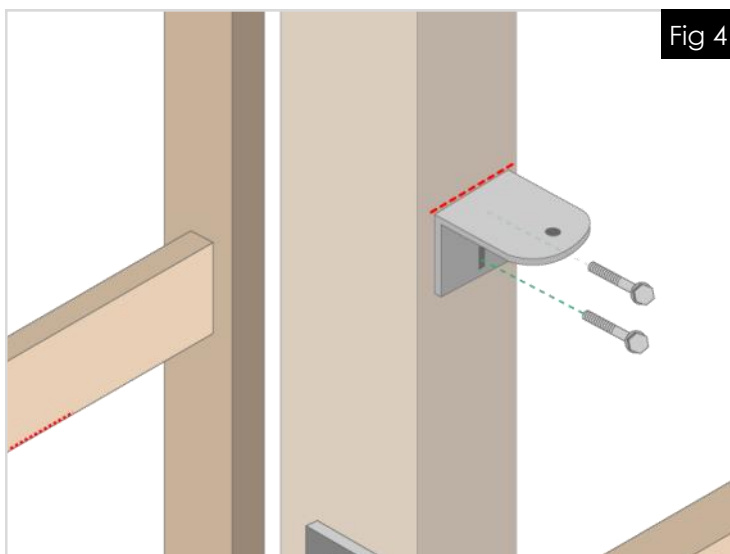

Fig 4
6) Place the lower "L" shaped bracket so the top of the bracket is aligned with the mark on the post. Mark then drill and attach the bracket using 3/8" carriage bolts. [See Fig. 4]
6) Place the lower “L” shaped bracket so the top of the bracket is aligned with the mark on the post. Mark then drill and attach the bracket using 3/8" carriage bolts. [See Fig. 4]